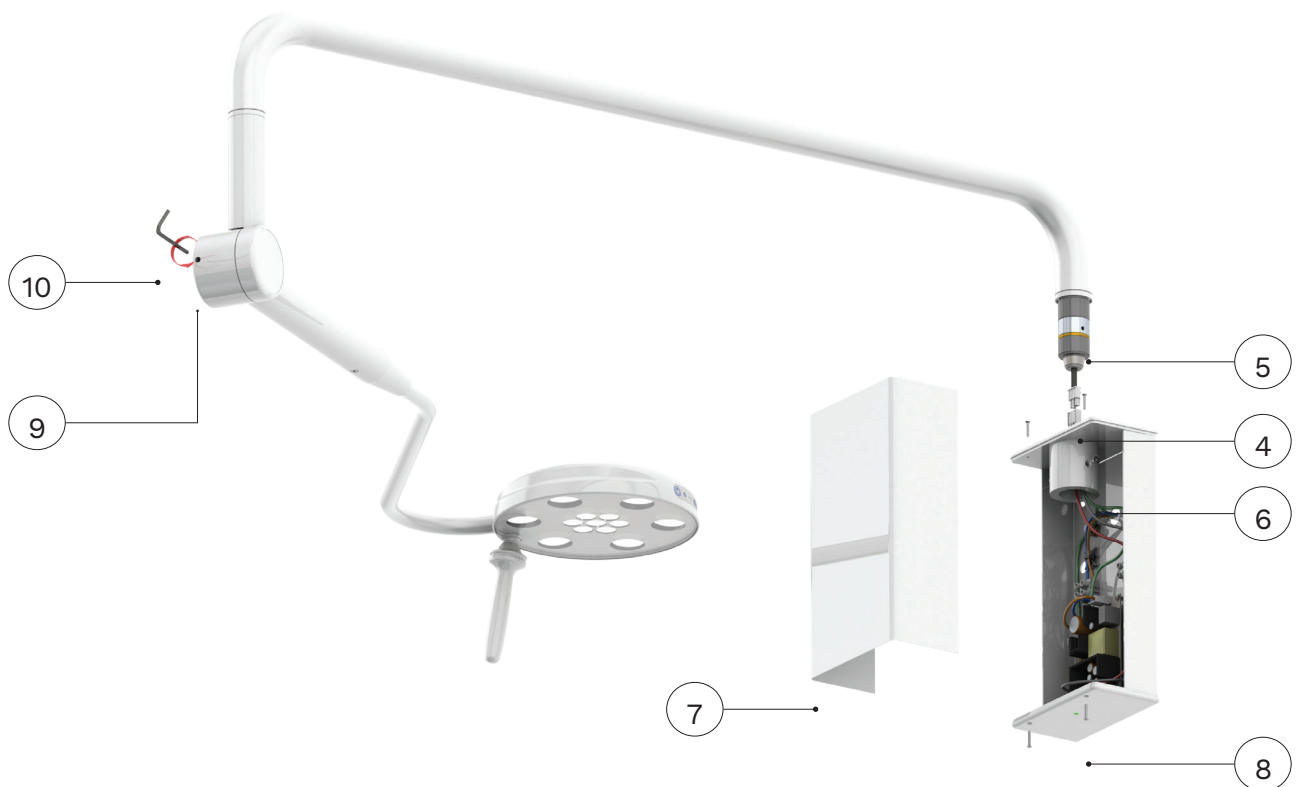

Fig. 18.0
4. Lift Phantom arm into place, and engage the 24V plugs as shown in Fig. 18.0.
5. Insert the arm bearing into the wall unit (taking care to align the threaded holes on the arm side bearing sheath with the corresponding holes on the bearing sheath on the wall unit, as shown in Fig. 18.0.
6. Insert and tighten the two grub screws to complete the fixing of the arm to the wall unit as shown in Fig.18.0.
7. Replace the wall unit cover as shown in Fig. 18.0.
8. Fix in place with the countersunk screws provided, as shown in Fig. 18.0.
9. Unscrew the end cap for access to the spring balance adjustment, as shown in Fig. 18.0.
10. Adjust the spring balance: using a 4mm allen key, adjust the screw inside the knuckle. Clockwise/Tightening the screw will cause heavier engagement of the spring - this will improve 'head droop'. Anticlockwise/loosening the spring balance will fix a 'rising head' issue, as shown in Fig 18.0.